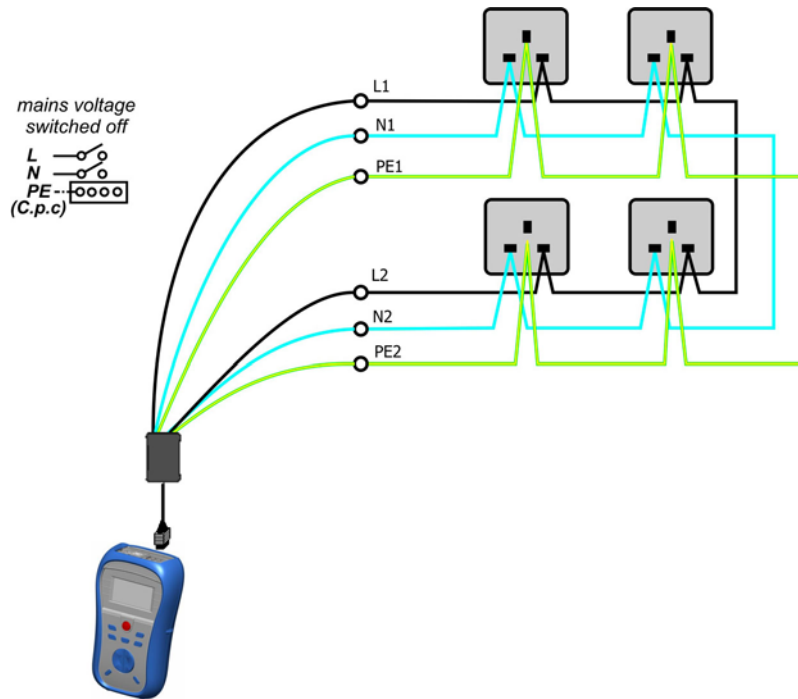

Figure 5.17: Step 1 - measurement of resistances r_1 , r_N and r_2
- ❑ **Connect** Easy Switch to the instrument (see figure 5.17)
- ❑ **Connect Easy switch** to the final ring circuit. The electrical installation must be de-energized during the test (see figure 5.17).